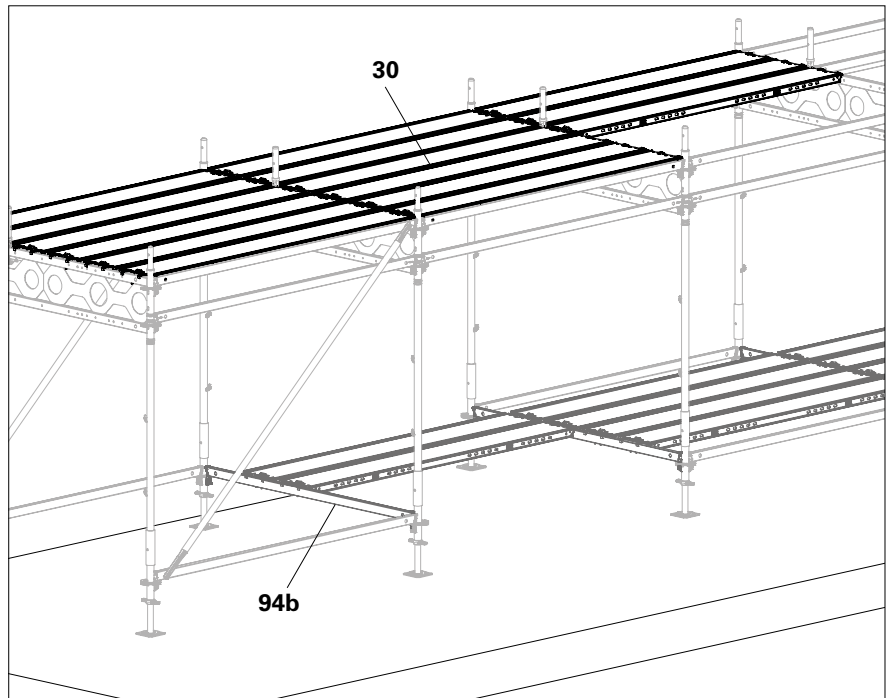

Fig. D6.07
5. Place Steel Decks EDS (30) in the Multi Girder ELM; to do so, gradually start to use the auxiliary decks no longer required in the base level.
- The pavement gantry is now installed. (Fig. D6.07)